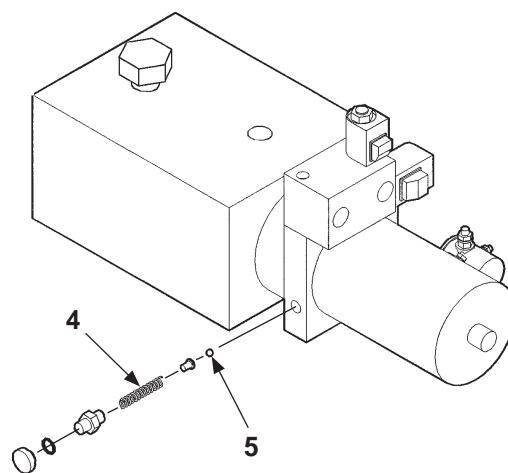

FIG. 42-2
5. If the unit does not maintain the pressure reading, it may be necessary to remove and inspect the relief valve components (**FIG. 42-2**). Check for nicks or cuts on the spring (**Item 4**) and ball (**Item 5**). Replace any damaged parts before reassembling the unit.